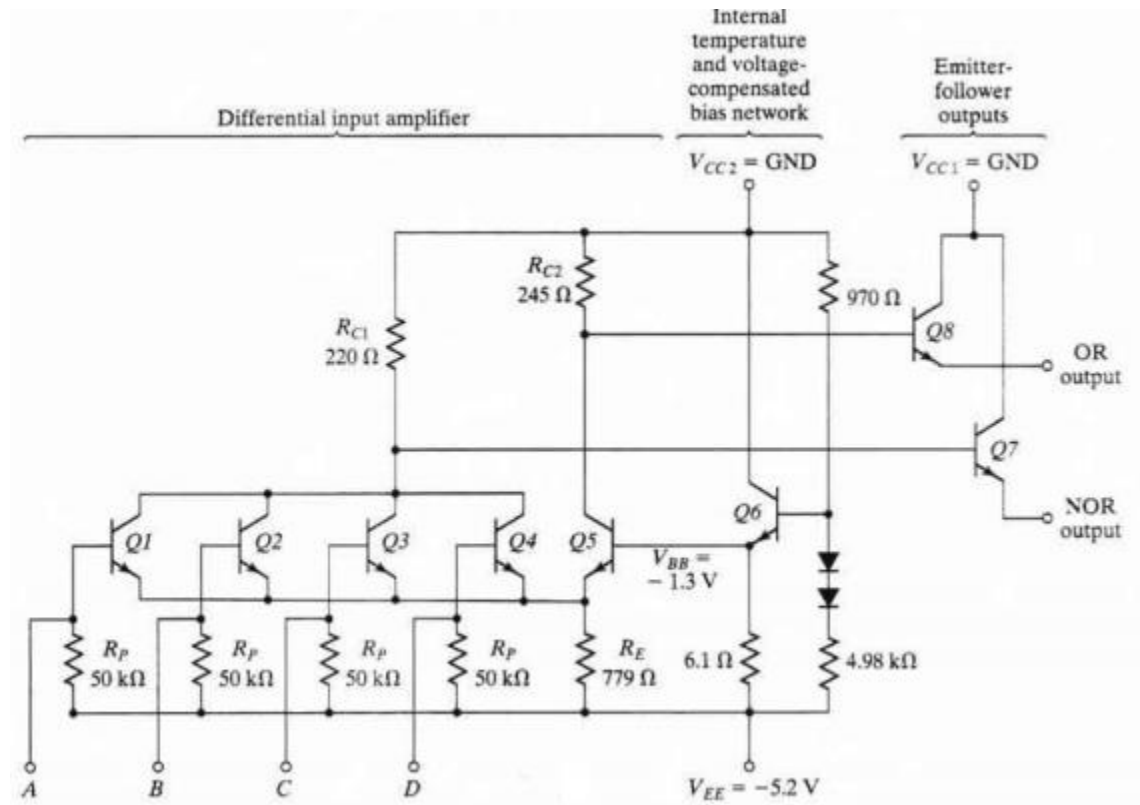

Fig 13. ECL logic circuit
- The circuit shown in figure 13 consists of a **differential amplifier, a temperature- and voltage-compensated bias network and an emitter-follower output**.